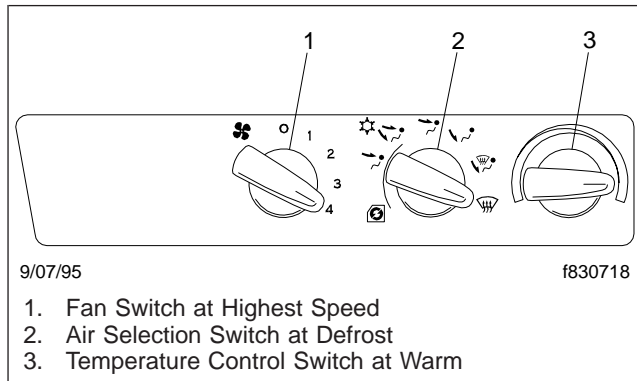

Fig. 4.9, Defogging and Defrosting Settings
3. With the engine at operating temperature, turn the fan switch to 4, the highest speed. See Fig. 4.9. Leave it in this position for 30 seconds. This will clear the system of moist air.